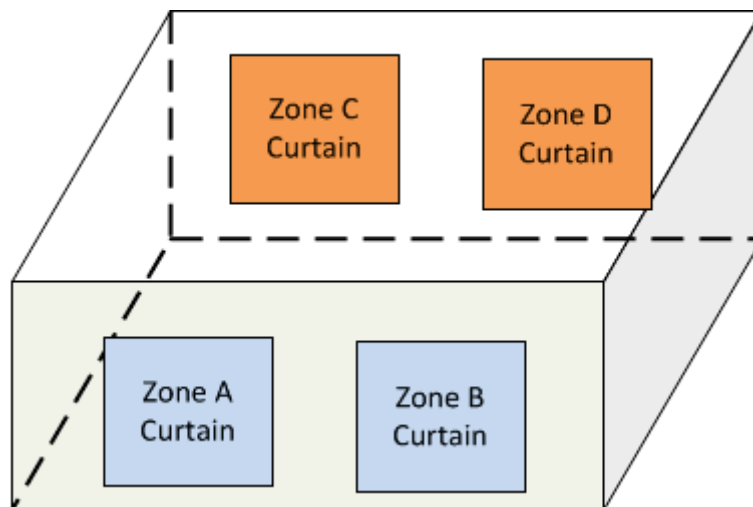

Figure 2: Dairy Barn having Four Independent Curtains
- **Independent curtains:** In this setup, the barn has four curtains, one for each zone. Curtains are independent; all four curtains open independently. See Figure 2.